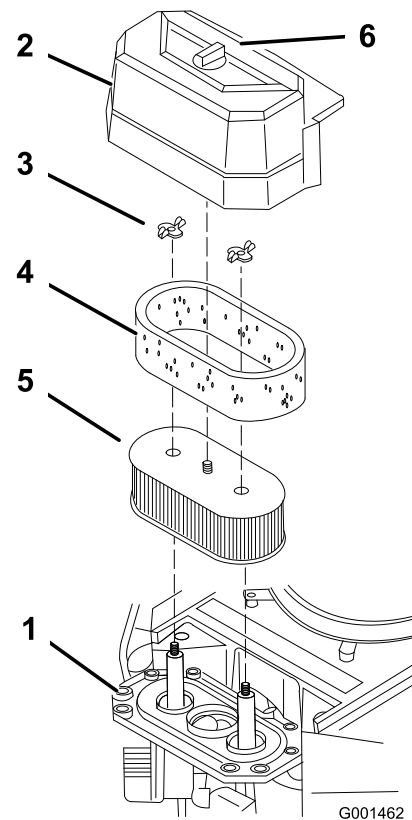

Figure 20
3. Clean around the air cleaner to prevent dirt from getting into the engine and causing damage (Figure 20).
4. Unscrew the cover knob and remove the air cleaner cover (Figure 20).
5. Remove the 2 wing nuts and remove the air cleaner assembly (Figure 20).
6. Carefully pull the foam element off the paper element (Figure 20).
1. Do not clean the paper filter, replace it (Figure 20).
1. Carefully slide the foam element onto the paper air cleaner element (Figure 20).
2. Place the air cleaner assembly onto the air cleaner base and secure it with the 2 wing nuts (Figure 20).
3. Place the air cleaner cover into position and tighten the cover knob (Figure 20).